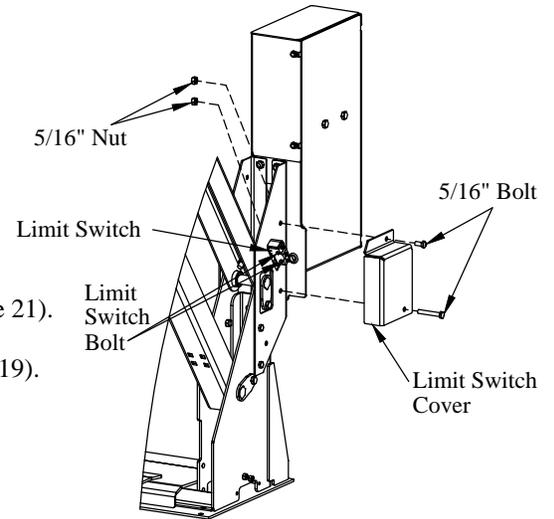

Figure 19: Limit Switch.
Note: Follow the *Tommy Gate Recommended Electrical Wiring Guidelines* and wiring diagram (Figure 19) in the following steps.
5. **Remove** the limit switch cover by removing two (2) 5/16" bolts and nuts (Figure 19).
6. **Loosen** the bolts holding the limit switch (Figure 19).
9. **Install** the limit switch cover with 5/16" bolts and nuts. Be careful not to over tighten the 5/16" bolts (Figure 19).